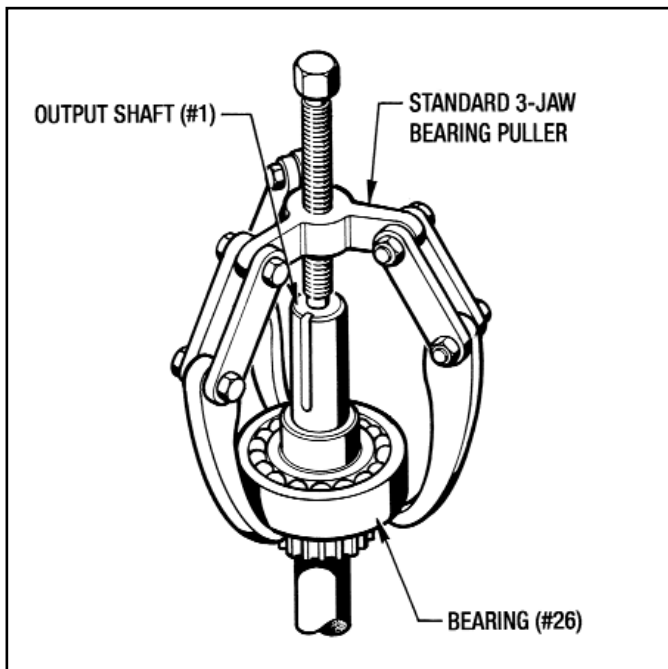

Figure 7.7 - Removing Bearing (#25)
(See Figures 7.7 and 10.3)
4. Remove Bearing (#26) with a Bearing Puller. (See Figure 7.7)